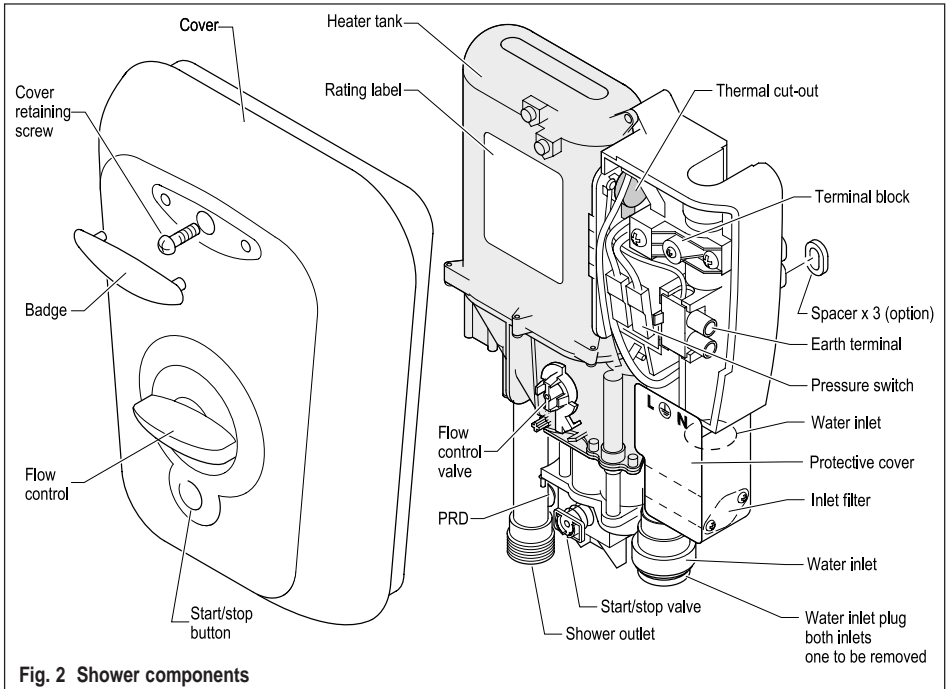

Fig. 2 Shower components
4.2.5 The electrical rating of the shower is shown on the rating label located on the heater tank - see fig. 2.